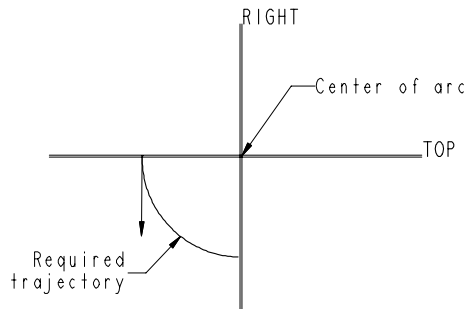

Figure 7-87 The sketch of required trajectory
- Create the base feature, refer to Figures 7-87 through 7-89.
3. Draw an arc such that the center of the arc lies at the intersection of the **TOP** and **RIGHT** datum planes, as shown in Figure 7-87. As you specify the center of the arc, the cursor snaps to the point of intersection of the two planes. Now, draw the arc and exit this tool. The endpoints of the arc are automatically aligned to the **TOP** and **RIGHT** datum planes. You will notice that an arrow is attached at the start point of the trajectory. This arrow points in the direction of sweep.